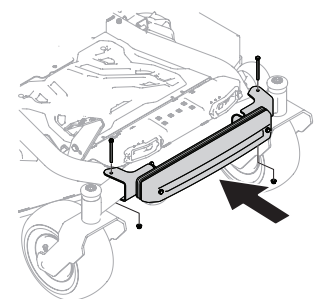

Figure 28
3. Visually center the weight bar assembly on the tractor and using two 7/16" hex head capscrews (710-3056) and two nuts (712-04063) secure the counter weight assembly to the tractor as shown in Figure 28.